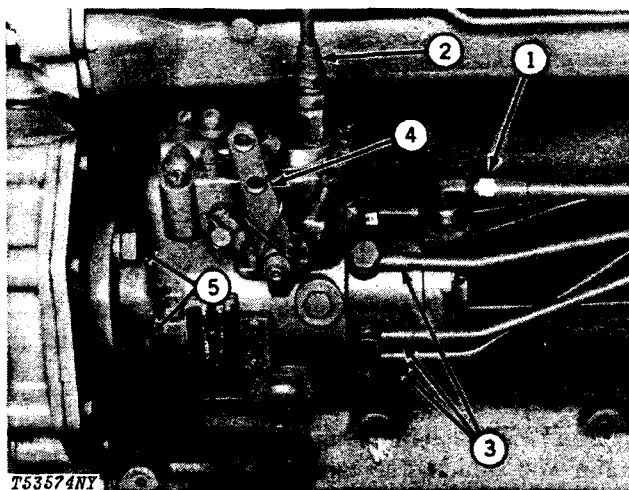

Fig. 2-Fuel Injection Pump Removal
Disconnect fuel supply line (1, Fig. 2), fuel return line (2), and fuel injection lines (3). Plug or cap all openings.